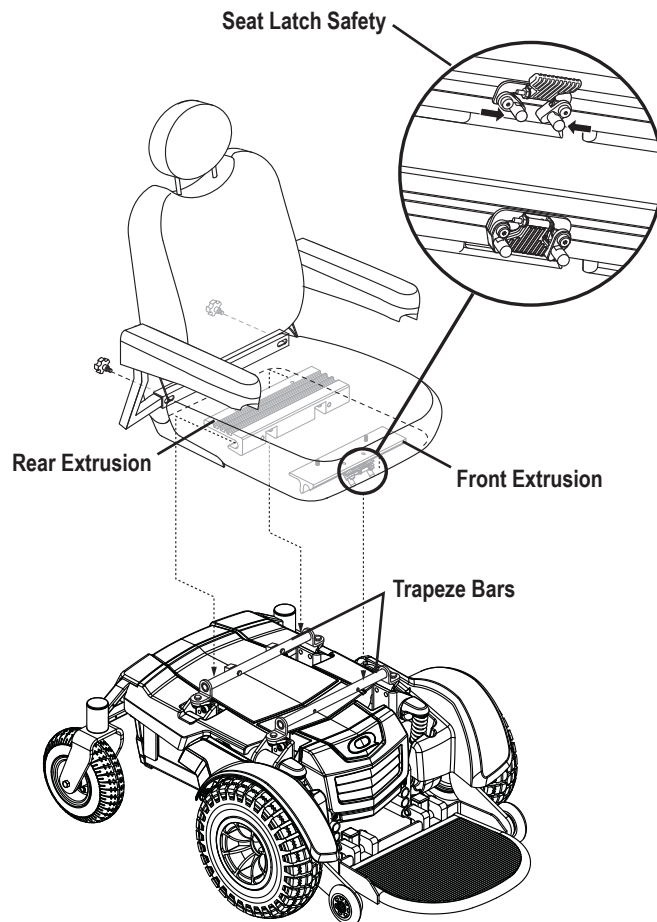

Figure 4. Universal Mounting System and Contour Seat
It may be necessary to install the seat either prior to initial operation or after transporting your power chair. Contour seats are attached to the power base with the Universal Mounting System (UMS). The UMS consists of universal parts that may be attached to the seat, regardless of seat width or seat depth. The two main components are aluminum extrusions mounted to the seat base. These extrusions attach to a pair of trapeze bars that are mounted to the power base. See figure 4.
1. Tilt the seat back and slide the rear extrusion onto the rear trapeze bar. **See figure 4.**
4. Flip up the seat latch safety. **See figure 4.**